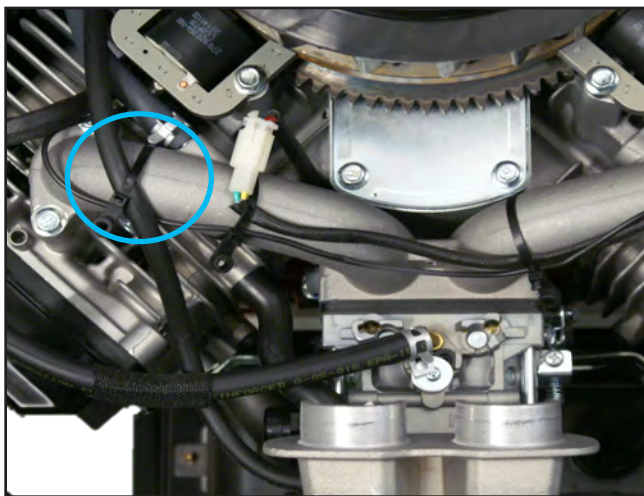

Figure 41
5. Route the fuel tank vent hose (B) (Figure 41) over the intake manifold near #1 head and retain with a plastic tie.
**NOTE:** Hose exits the engine near the electric starter (Figure 41).